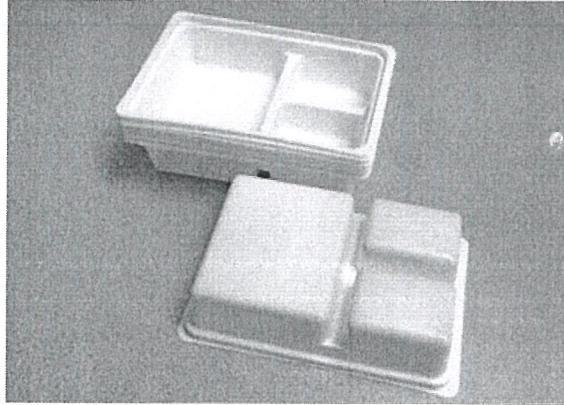

Figure Q4(b)
- Q4** (a) What manufacturing process would you suggest to a car manufacture for producing car bumpers? Suggest **two (2)** manufacturing process. (4 marks)
- (b) The technique of thermoforming is used to produce food tray as illustrated in **Figure Q4(b)**. With the aid of a diagram, construct the working operation of thermal forming food trays. (6 marks)
- (c) List the **two (2)** aspects of quality in a manufactured product. (2 marks)